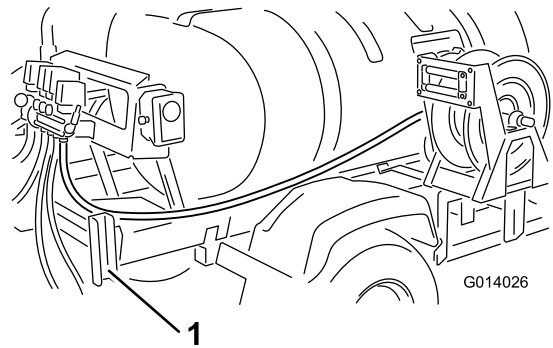

Figure 12
7. Route the hoses around the mount frame and up to the open barb on the hose reel valve installed previously (Figure 12).
6. Route the hose rearward along the tank skid frame, inside of the right rear fender inside the boom support channel (Figure 12).